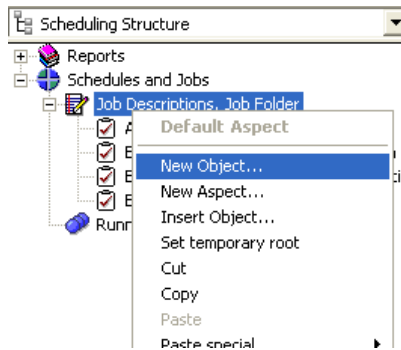

Figure 184. Creating a New Job Description Object
2. Select the Job Descriptions object and open the context menu. See Figure 184.